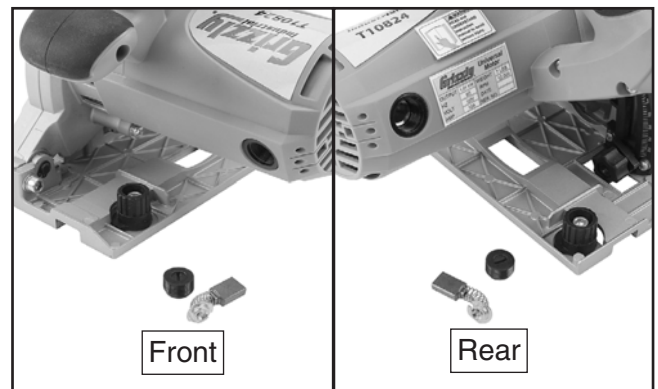

Figure 27. Motor brush removal.
2. Using a #2 flat head screw driver, unscrew front brush cap and carefully remove brush from motor (see **Figure 27**).
3. Unscrew rear brush cap and remove brush from motor (see **Figure 27**).